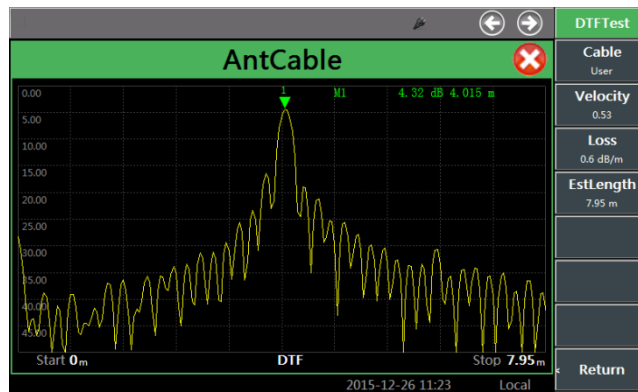

Fig. 4-22 DTF Test Curve
- Cursor setting: click the [Cursor] soft key in the right menu to enter the menu of next level, and enable the cursor function to view the standing wave ratio or return loss of the cable in the specific position. At most three cursors can be opened at the same time by [ON OFF] setting. The cursor can be dragged into the ideal position by selecting the [Position] soft key, or rapidly positioned by directly selecting the [Peak], [Left Peak] or [Right Peak]. The normal or differential mode can be selected with the [Mode] soft key. In DTF measurement, the cursor is generally positioned at the peak (i.e. fault point) so as to read the position of the fault point, i.e. the distance between the fault point and the measurement point of the test instrument. The measured fault point position is shown in Fig. 4-22.